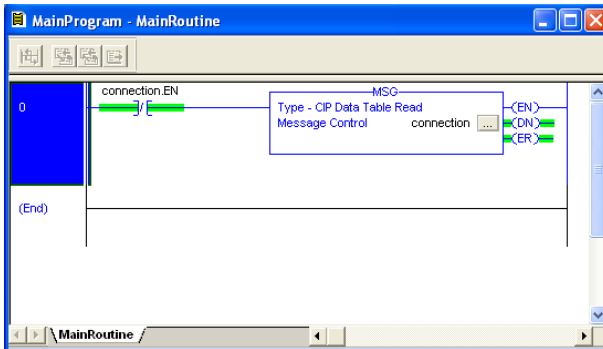

Figure 102: Complete Program
- 6) The program is now complete. Refer to Figure 102.